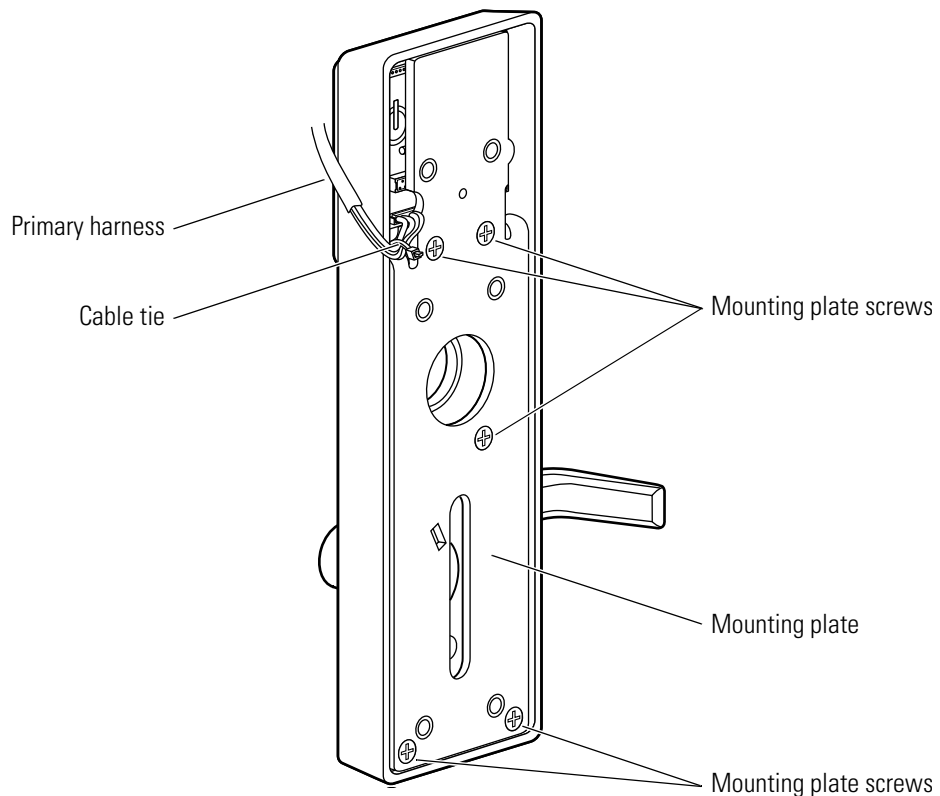

Figure 10.4 Removing and reinstalling the mounting plate
2. Cut the cable tie off the mounting plate post and discard the cable tie. See Figure 10.4.
Make sure that the locking plate fits into the slot in the mounting plate. See Figure 10.4.
3. Route the primary harness against the mounting plate post and secure the harness to the post with a cable tie. See Figure 10.4.